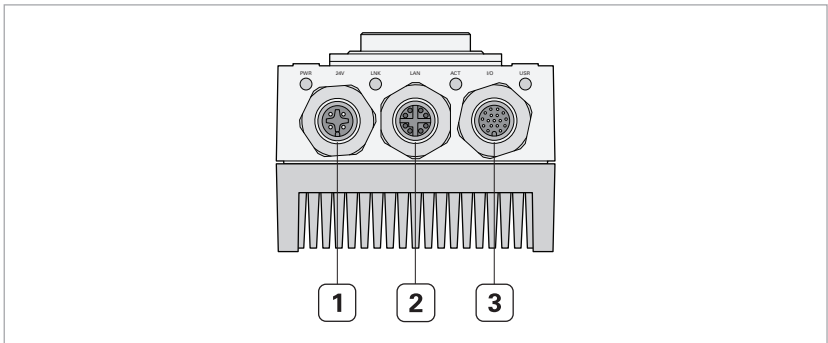

Fig. 2: M12 connectors on the bottom side of the camera
1. Align the X-coded M12 plug of the Ethernet cable with the camera's Ethernet connector (⇒ Fig. 2 on page 13).
1. Align the A-coded M12 plug of the I/O cable with the camera's I/O connector (⇒ Fig. 2 on page 13).
1. Align the A-coded M12 plug of the power cable with the camera's power in connector (⇒ Fig. 2 on page 13).